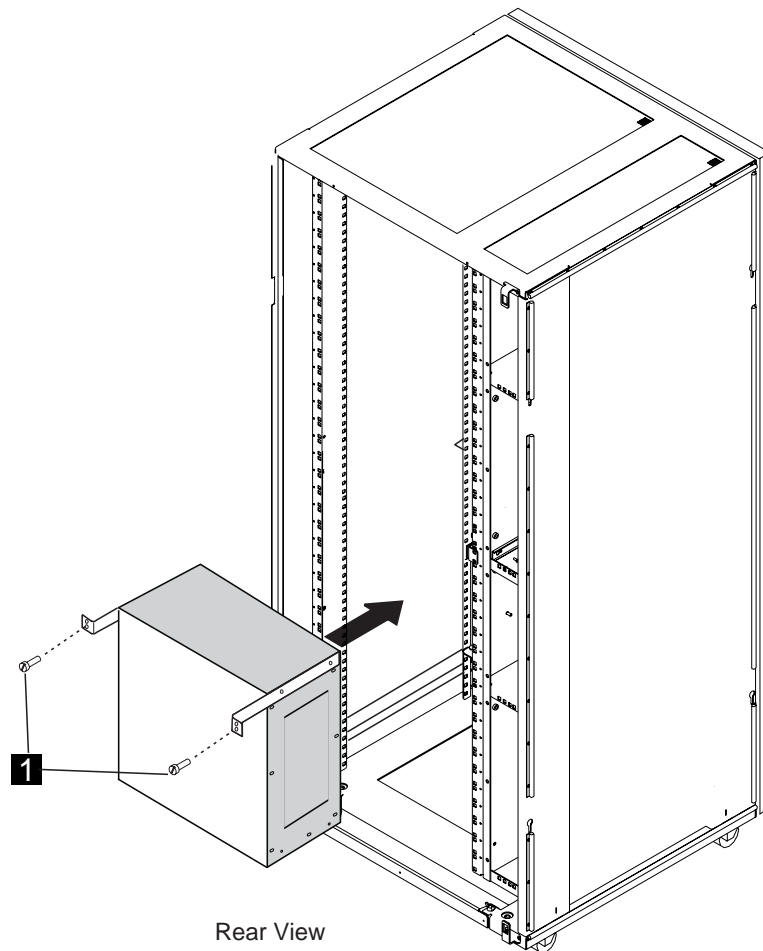

Figure 1-6. Installing MAE in the Controller Expansion
7. ____ At the back of the controller expansion (with the help of a second CE), **set** the MAE on the brackets and fasten the MAE using two screws **1** (PN 1621230) as shown on Figure 1-6.